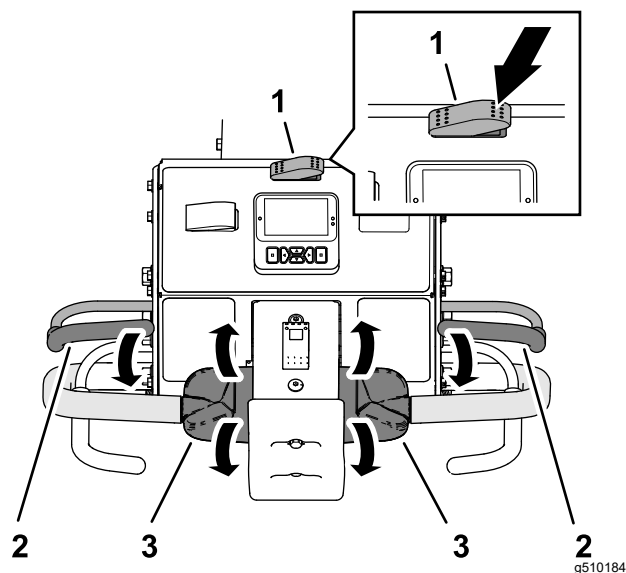

Figure 80
3. Press the right side of the transport/aeration switch to the AERATE position (Figure 80).
5. Grasp the left or right handlebar and the operator-presence bail (Figure 80), and squeeze the bail to the handle.